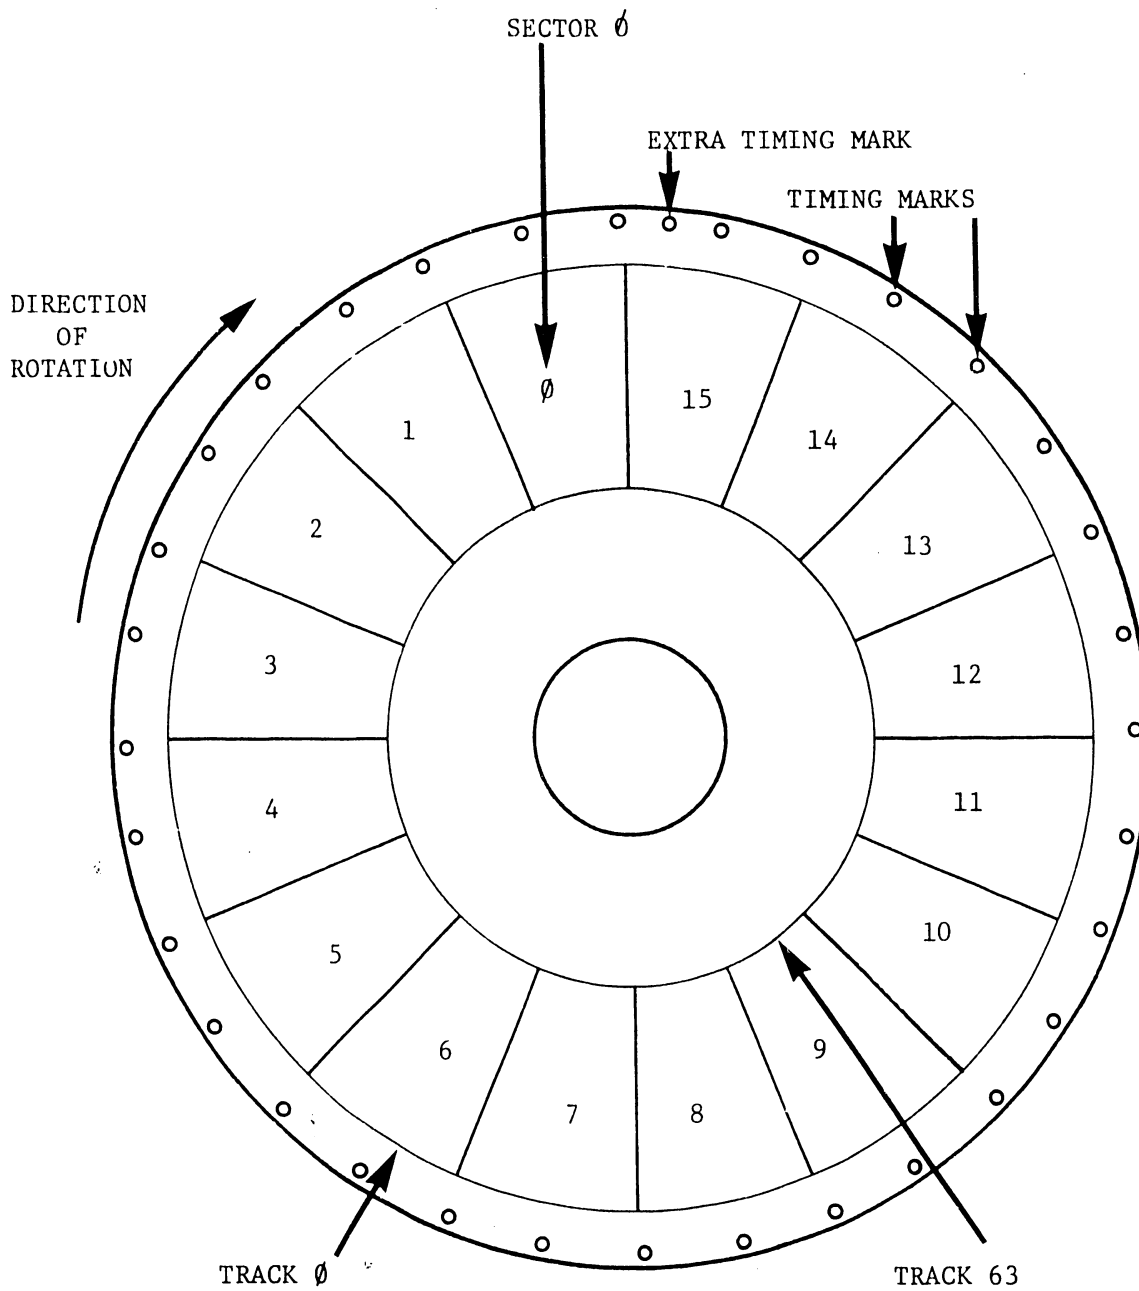

FIGURE 7
2) Design and Utilization (See Figure 7)